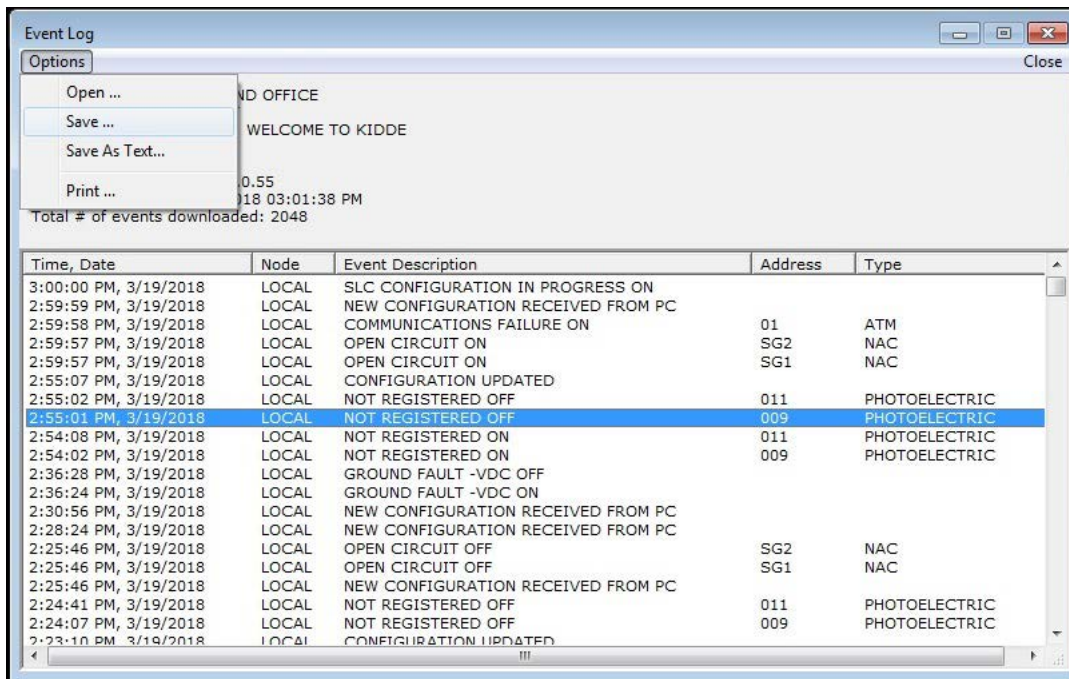

Figure 4-30. Event Log Screen
7. Select **<OK>**. In response, the event log (Figure 4-30) is displayed. Within the Event log, there are four menu options: **Open**, **Save**, **Save As** and **Print**.